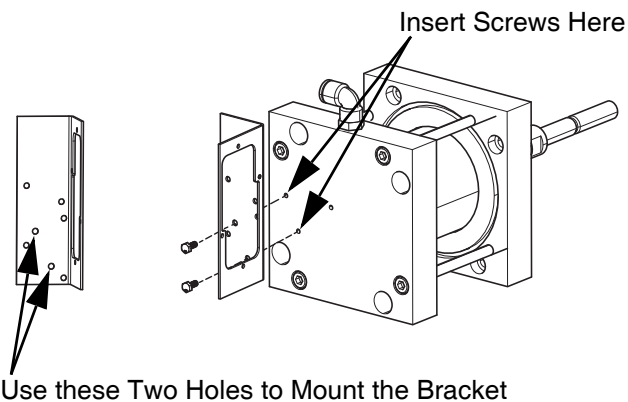

FIG. 4: Attaching the Bracket
7. Use the two hex screws (part# 128170) included with the kit to attach the bracket to the air cylinder end block as shown in Figure 4.